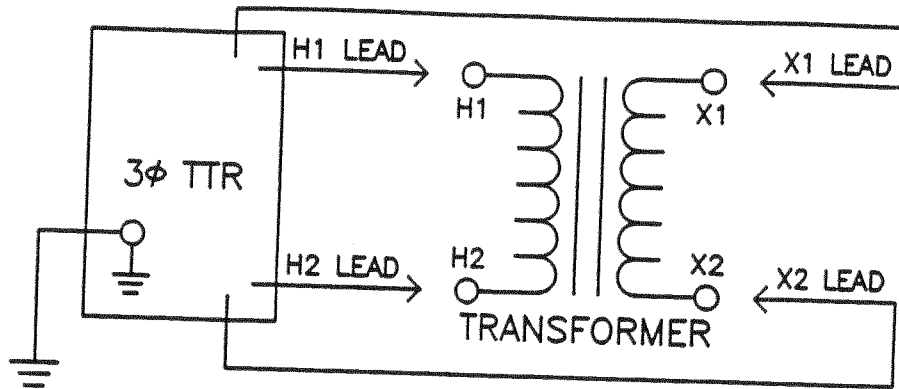
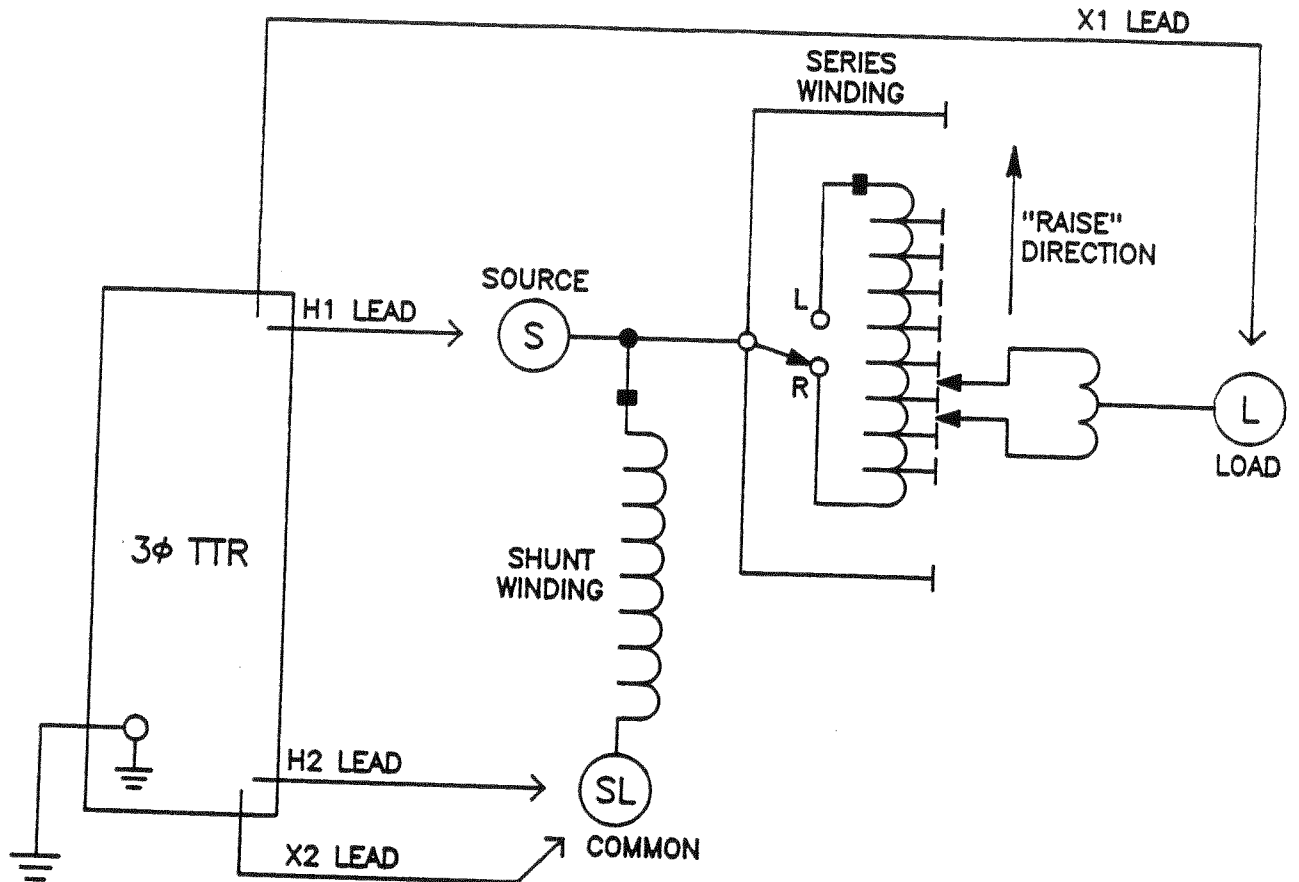

Figure 4: Setup for Testing Single-Phase Transformer
Figure 6: Setup for Testing Single-Phase, Type A (Straight Design) Step Voltage Regulator
4. Connect the heavy-duty clips marked X1 and X2 of the test lead to the corresponding (low voltage winding) terminals of the transformer under test. Figures 4 and 5 show test setups for single-phase transformers. Figures 6 and 7 show test setups for regulators.